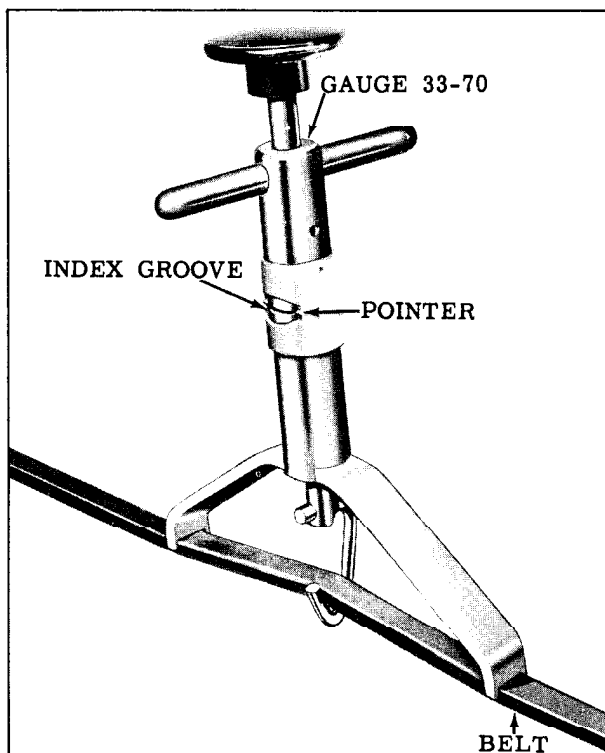

Fig. 13-8 Checking Belt Tension
- c. Tighten generator belt until the line on the gauge is even with the pointers as shown in Fig. 13-8.